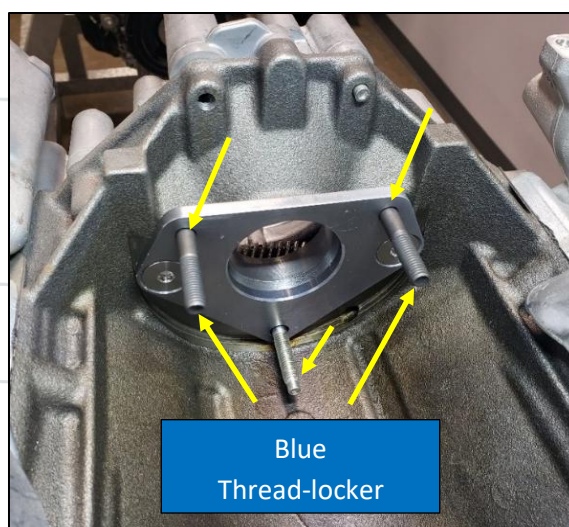

Figure 24: Engine Adapter Plate Installation on Engine Block
3. Install the DCR Pump Adapter Plate to the Engine Block (Figure 24).
5. Install the short, threaded side of the mounting studs into the engine adapter plate (Figure 24).
6. Apply blue thread-locker to all three DCR mounting studs shown in Figure 24.